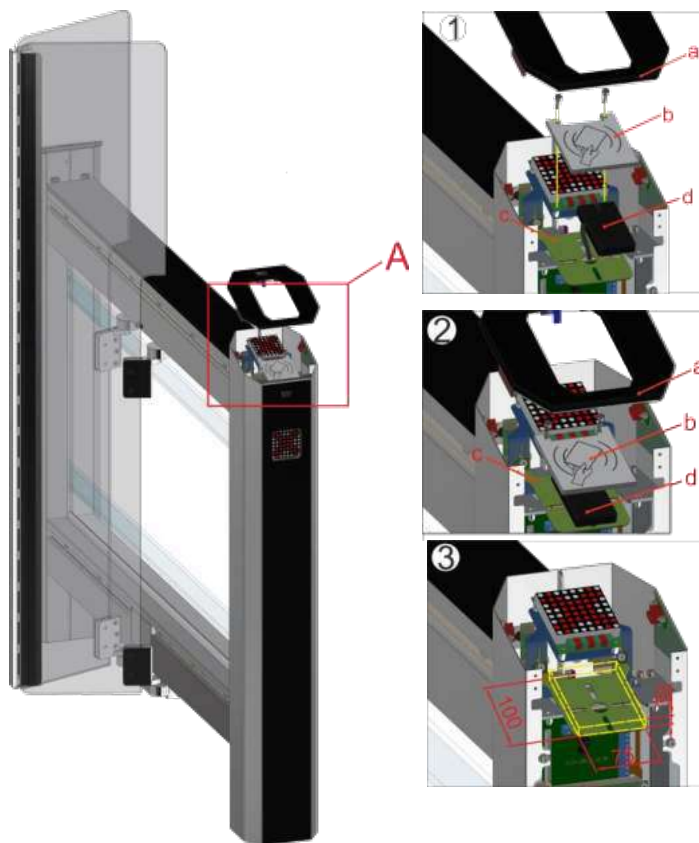

Fig.20 – Installation of card reader
4. install a reader if needed (see fig.20);
13) Installation of proximity card reader * (supplied by order for a fee) , upon availability of access control system (ACS) (Fig.20).
3 - The maximum dimensions of the identification card reader (d) to be installed is 75x100x30 mm (See Fig. 20);.